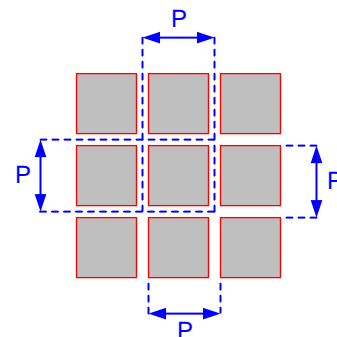

Figure 9. Micromirror Array Physical Characteristics
- (1) See Figure 9.
- (2) The structure and qualities of the border around the active array includes a band of partially functional micromirrors called the *Pond Of Mirrors* (POM). These micromirrors are structurally and/or electrically prevented from tilting toward the bright or “on” state but the requirement of an electrical bias to tilt toward “off remains.”